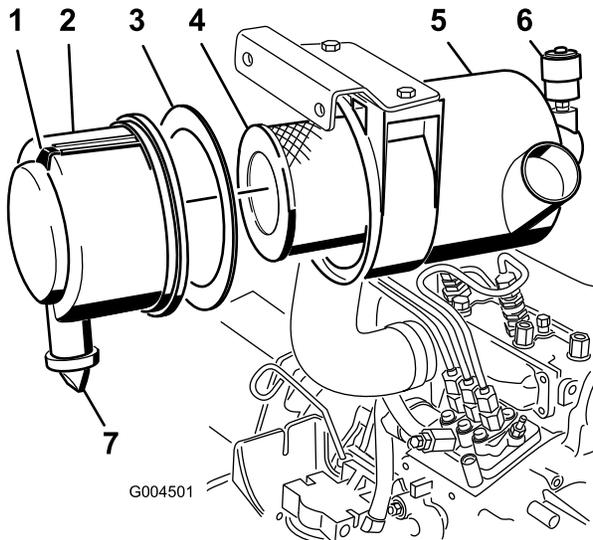

Figure 39
2. Service the air cleaner filter when the air cleaner indicator (Figure 39) shows red or every 400 hours (more frequently in extremely dusty or dirty conditions). Do not over service the air filter.
1. Pull the latch outward and rotate the air-cleaner cover counter-clockwise (Figure 39).
2. Remove the cover from the air-cleaner body (Figure 39).
4. Remove and replace the primary filter (Figure 39).
6. Ensure that the foam gasket is in place in the cover and that it is not torn or damaged (Figure 39).
- A. Remove the rubber outlet valve from the cover (Figure 39).
10. Reset the indicator (Figure 39) if showing red.